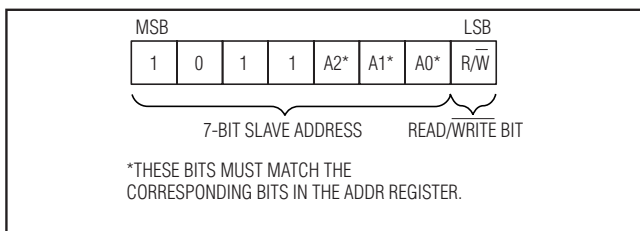

Figure 4. Slave Address Byte
The 2-wire serial interface is used to read and write the control registers of the DS1094L. The default slave address of the DS1094L is B0h (see Figure 4). Using the 3 address bits (A2, A1, and A0) in the ADDR register, the slave address can be changed to allow as many as eight DS1094Ls reside on the same 2-wire bus or to simply prevent address conflicts with other 2-wire devices. The location of the address bits within the ADDR register is shown in the *Control Registers* section. A detailed description of the 2-wire interface is found in the *2-Wire Serial Interface Description* section.
**Slave Address Byte:** The slave address byte consists of a 7-bit slave address followed by the  $R/\overline{W}$  bit (see Figure 4). The slave address is the most significant 7 bits and the  $R/\overline{W}$  bit is the least significant bit. The 3 address bits in the slave address ( $A_2$  to  $A_0$ ) permit a maximum of eight DS1094Ls to share the same 2-wire bus.